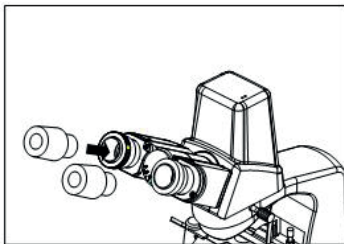
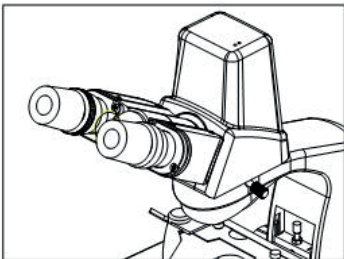

Fig.3
Fig.4
2.2.2 Installing the eyepieces (Fig.3 - Fig.4)
Insert the eyepieces into the eyepiece tube until they are against each other as shown in Fig.4.